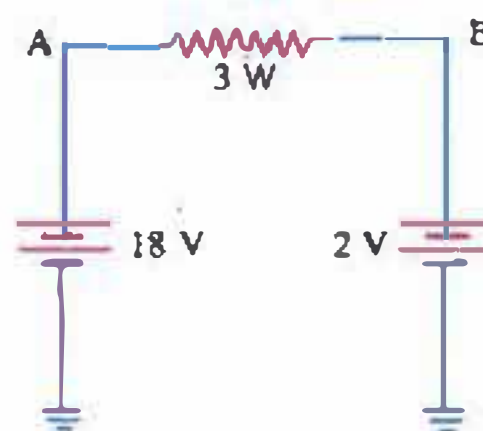

Fig. 1.20
- Find the magnitude and direction of current in Fig. 1.20. [2 A ; from A to B]